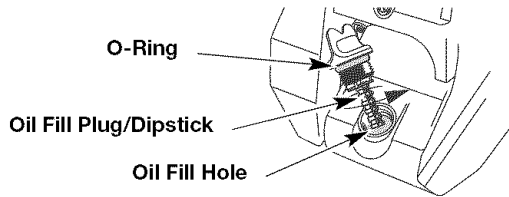

Fig. 3
3. Remove the oil plug / dipstick from the crankcase (Fig. 3).
4. Pour the entire bottle of oil into the oil fill hole (Fig. 3).